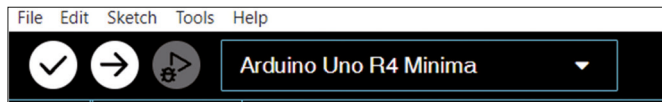

Figure 2.4: Select: Arduino Uno R4 Minima.
- You should be able to select the Arduino Uno R4 board from the board selector at the top left of the screen (Figure 2.4). Connect your Arduino Uno R4 Minima (or WiFi) to your PC via a USB-C cable.